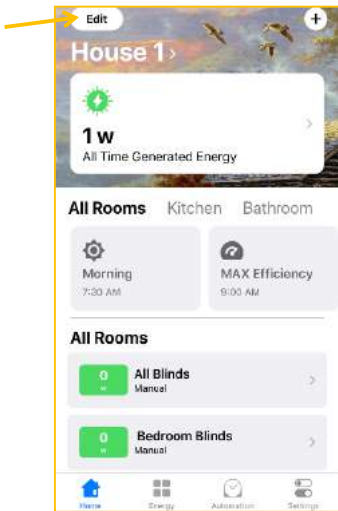

Figure 43
10.10.1. Click **Edit** in the top left corner to start (Fig. 43).